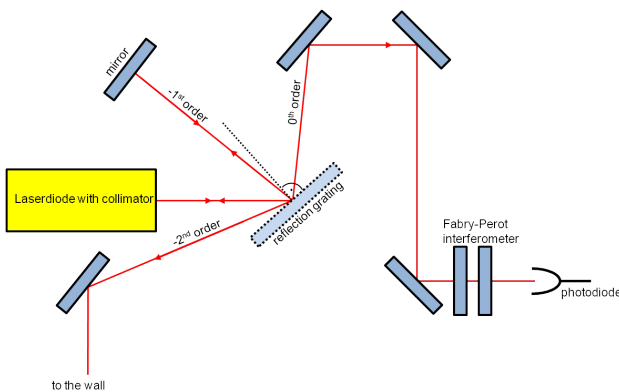

FIG. 2: Scheme of a laser in the Littman configuration. The red lines/arrows indicate the paths/directions of the laser beams.
(3) *Achieve feedback in the Littman configuration.* Rearrange the optics such that they realize the Littman configuration (Fig. 2). Keep the path short (about 3 cm between diode and grating, and another 3 cm between the grating and the mirror). Determine the threshold with and
be adjusted so that the -2nd diffraction order passes narrowly by the laser (see Fig. 2). The positions of individual laser modes can then be traced out on the wall. In addition, the 0th order beam should be coupled via two mirrors into the FPI (Fig. 2, also FP 1). The length of the FPI is clearly less than 1 mm, and the free spectral range (FSR) will be between 500 and 1000 GHz, depending on the alignment. You should determine the exact value of the FSR in the course of this exercise. A cylindrical piezoelectric crystal, driven by a function generator, is used to vary the distance between the mirrors of the FPI. Observe the voltage ramp sent to the piezo and the transmission signal of the FPI on the oscilloscope, measured on a photodiode. For rough adjustment, the laser beam can be observed after the FPI on a piece of paper. For fine adjustment, optimize the photodiode signal on the oscilloscope. Now tune the horizontal (left-right) adjustment of the mirror that reflects back to the grating. You will see on the FPI signal how different laser modes swing past, that is, how the wavelength of the laser can be adjusted by varying the grating angle. Typically, you should be able to scan through a few FSRs on the FPI. Determine the approximate range over which you can tune the laser wavelength.